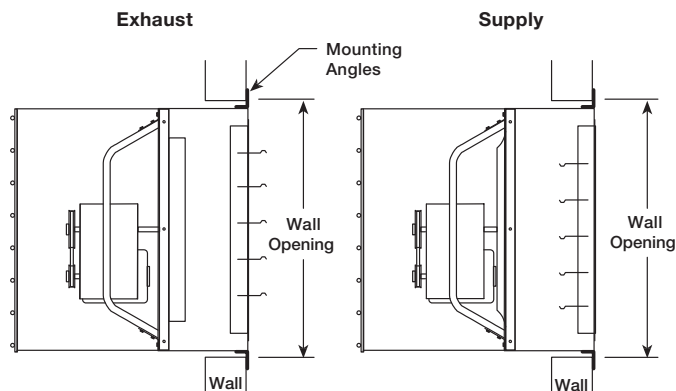

Figure 2
6. Attach (4) mounting angles to the fan housing and wall framing. Refer back to Figure 2.